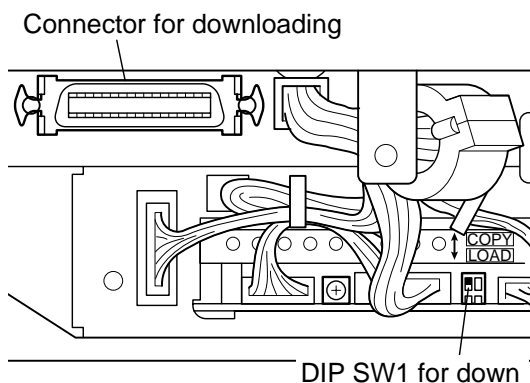

Figure 4-607
- 4) Slide the DIP switch (SW1; Figure 4-607) to the LOAD position.